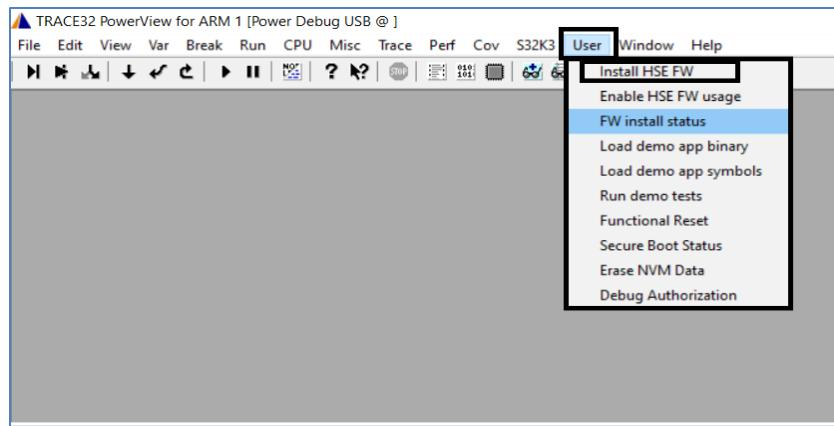

Figure 27. Main menu
- Select HSE FW installation with IVT as shown in Figure 27 and click “OK”.
- Click on “User” and select “Install HSE FW” option from the drop-down as shown in Figure 27.